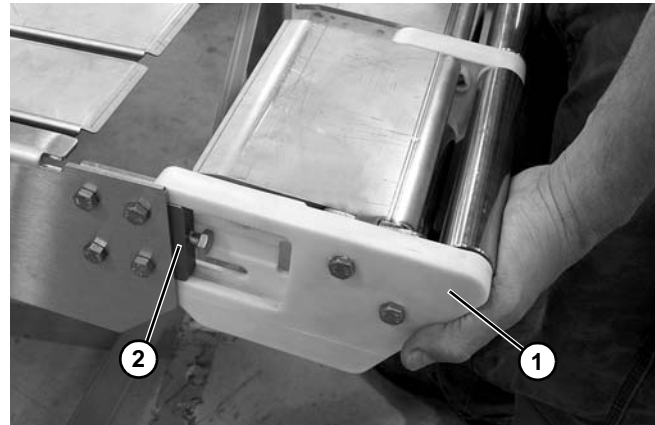

Figure 84
- Slide the nose bar idler (Figure 84, item 1) off the pivot tail blocks (Figure 84, item 2).